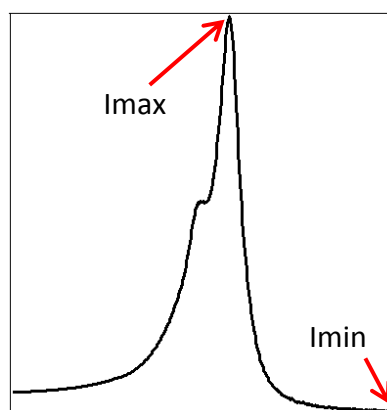

Fig. 5. 'I_{max}-I_{min}' mode.
(2) 'I_{max}-I_{min}' mode: the difference of the maximum intensity and the minimum intensity of the core level peaks will be used as the data point intensity of an XPD pattern. For example, in Fig. 5, the intensity at the top of the peak is I_{max}, the intensity at the right hand side is I_{min}.